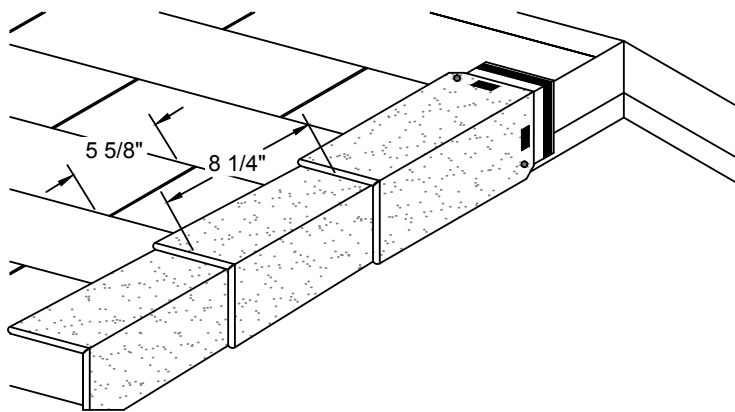

Figure 13 - Application of EZ-Ridge® Shingles on Rake Edges of the Roof
2. Have the high-profile, finished end of EZ-Ridge® shingles in the lowest position. (See Figure 13)